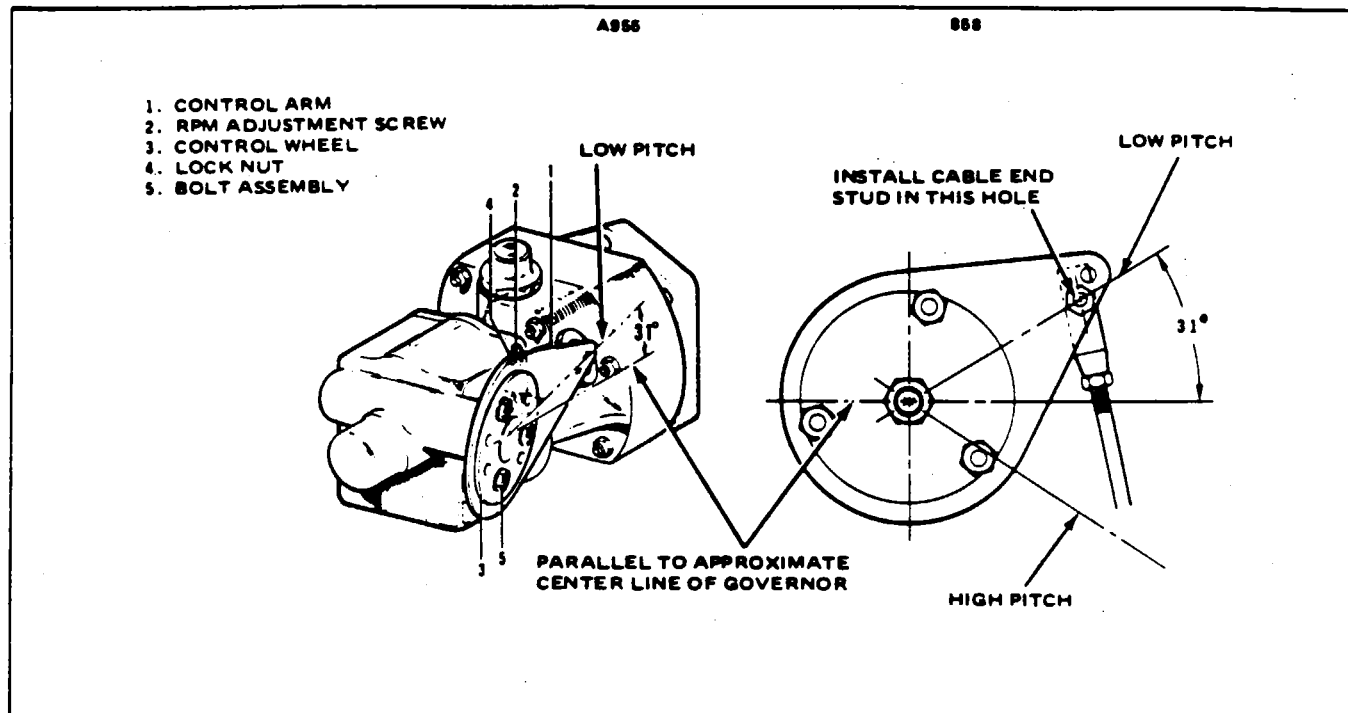

Figure 61-6. Propeller Governor
RIGGING AND ADJUSTMENT OF PROPELLER GOVERNOR. (Refer to Figure 61-6.)
- A. Insure that the governor control arm is located approximately as shown on Figure 61-6.
E. Ascertain that the governor control arm is adjusted to the proper angle on the control wheel as shown in Figure 61-6.